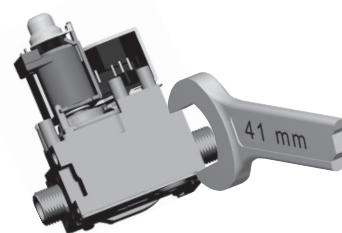

Fig.2
- Use only the specified spanner grips shows in Fig.2 when making the connections
DO NOT OVER-TIGHTEN THE LOCKING RING. COUNTERBALANCE THE TORQUE (SEE EXAMPLE IN FIG. 2).
DO NOT OVERTORQUE. COUNTERBALANCE THE TORQUE (SEE EXAMPLE IN FIG. 2).